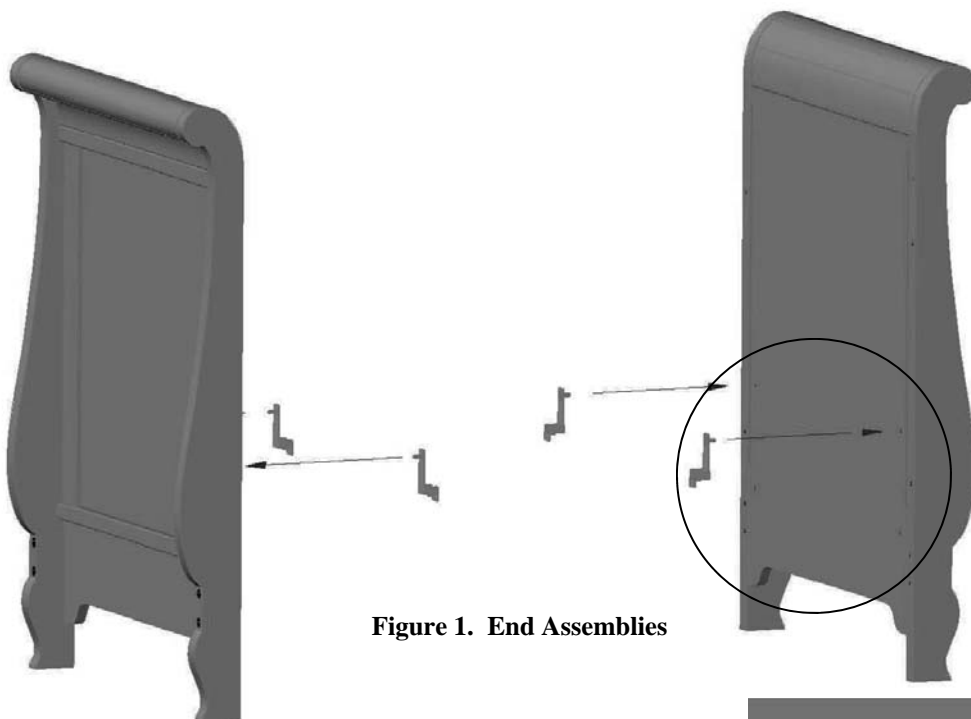
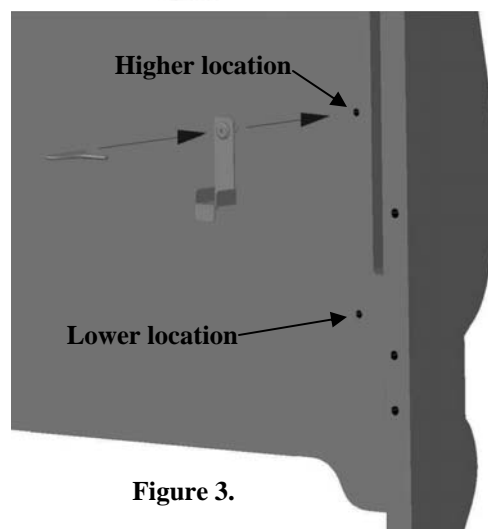

Figure 1. End Assemblies
Figure 3.
- Locate the (4) Mattress Platform Brackets with attached assembly bolts as shown in Fig. 1. Determine the high or low position of the mattress foundation (Fig. 3) and attach the brackets on both the left and right end section in the same height location. (This is very important to keep the foundation level and your child safe).